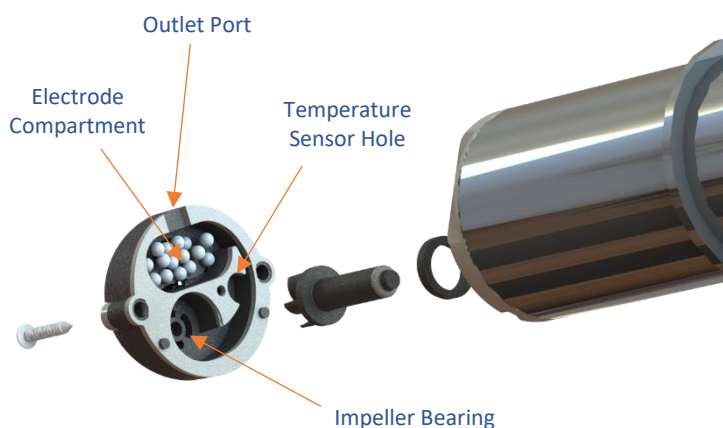

Figure 2: Exploded assembly - correct cleaning bead location.
**To install new wear parts:** Remove parts from the replacement wear kit. Install new wear ring into wear ring groove. Install new impeller into impeller well. Place 15 cleaning beads into the sensor end cover (Figure 2). Beads must only be present in the electrode compartment. Align temperature sensor and impeller with respective holes in sensor cover. Lower sensor into sensor cover. Twist the cover gently until the sensor cover guide pins drop into the sensor end. Holding the sensor cover in place, insert, and tighten 2x cover screws until there is no gap between the sensor cover gasket and the sensor end. To prevent motor binding, do not over-tighten.